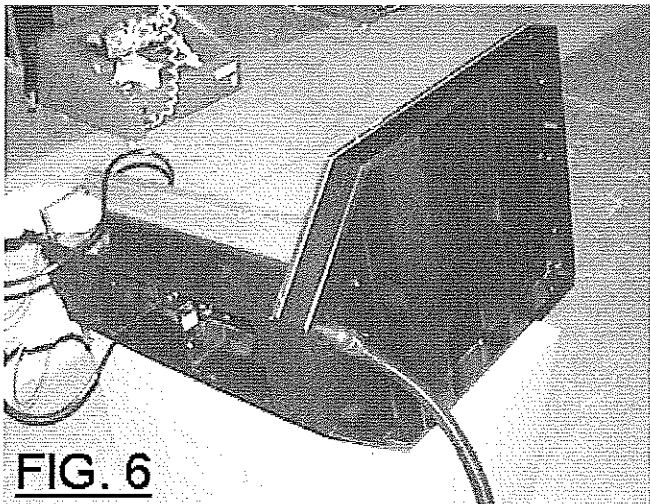

FIG. 6
8. Move the Coin Tower and Floor Assembly onto its side (Fig 6) and thread the Flexihose through the ribs on the underside of the Floor. (Fig 7)